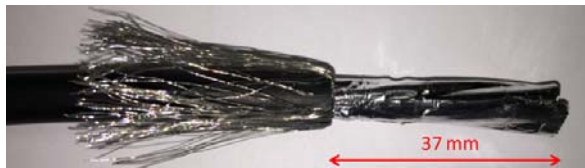

Figure 10
- Unweave and fold back the braid (Fig 10)